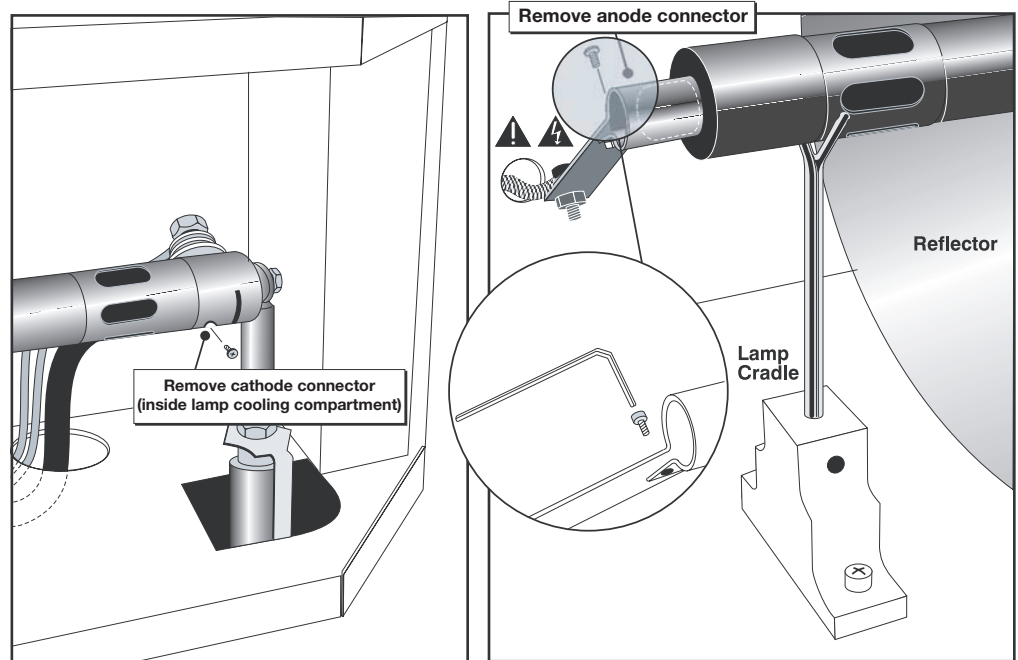

Figure 5-1. Disconnecting the Old Lamp
5. Using a hex wrench of the appropriate size, loosen the set screws from the negative/cathode (rear, 7/64") and positive/anode (front, 3/16") lamp connectors; see Figure 5-1. **Apply minimal torque and DO NOT stress the quartz tube.**